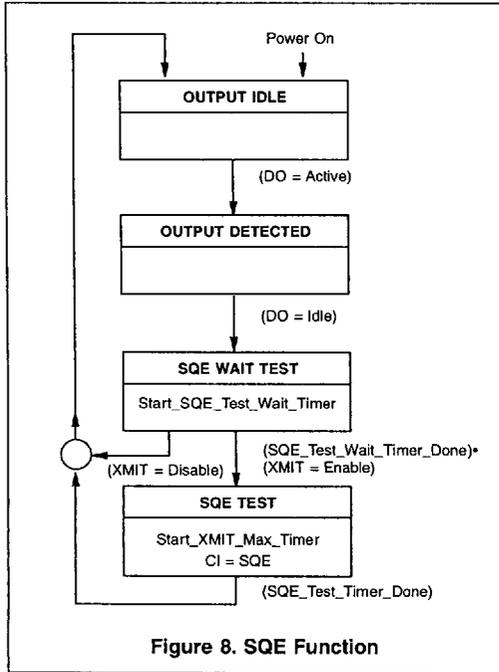

Figure 8. SQE Function
In the integrated PLS/MAU mode, the MB86961(A) supports the signal quality error (SQE) function as shown in Figure 8. After every successful transmission on the 10BASE-T network, the MB86961(A) transmits the SQE signal to the DTE for 10±5 bit times over the internal CI Circuit.